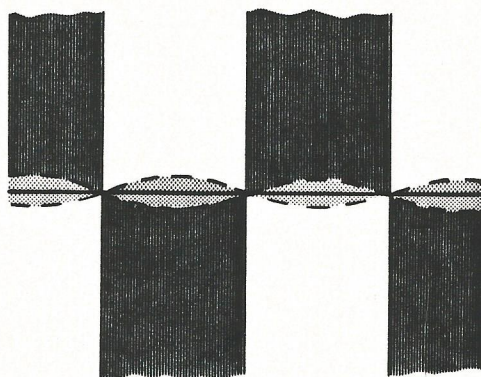

Figure 6
5. As R188 is rotated from one extreme to the other, the observed baseline should pass through a point of optimum flatness as depicted in Figure 6.